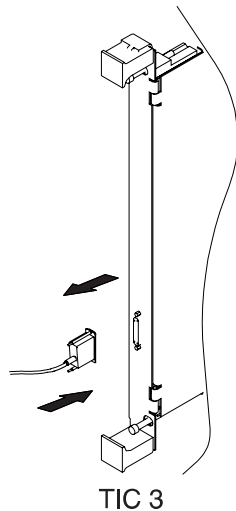

Figure C-5. Installing or Removing a Token-Ring Attachment Cable
- Step 2** Push in the connector and tighten the retaining screws (see Figure C-5). Repeat this step for every cable that you need to plug in.